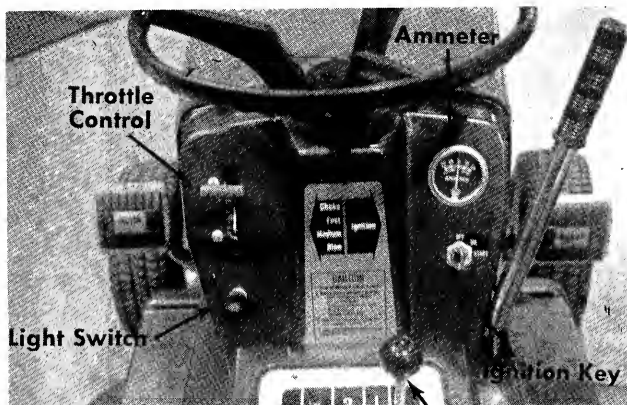

FIGURE 7. CONTROLS
a. **Throttle Control.** The throttle control is used to regulate the engine speed and choke the engine. The engine should be operated from $\frac{3}{4}$ to full throttle when operating the cutting deck or snow thrower (optional). See figure 7.
b. **Gear Shift Lever.** The gear shift lever is used to shift into one of four Forward Gears, NEUTRAL or REVERSE. See figures 7 and 8.
d. **Brake Lock.** The brake lock is located on the right hand side of the mower. To lock the brake, depress the brake pedal and lift up the lock button. The pedal will stay depressed. To release, depress the pedal. See figure 7.
h. **Ammeter. (Electric Start Model Only.)** The ammeter registers the rate of battery charge or discharge. The ammeter should register on the plus side (+) when the engine is running in the fast position until the battery is completely charged. With a fully charged battery or with the engine idling the ammeter will not show a charge. See figure 7.
i. **Light Switch. (Electric Start Only.)** Pull the light switch out to turn on the lights. The lights will only operate when the engine is running. See figure 7.
Electric Start. See figure 7. Turn the key to the START position to start the engine. When the engine is running, let the key return to the ON position. To stop the engine, turn the key to the left to the OFF position and remove it to prevent accidental starting.
Step 4. Set the throttle control in the CHOKE position. See figure 7.